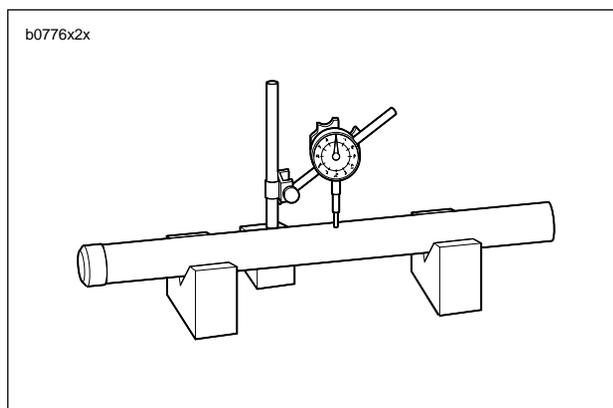

Figure 2-70. Slider Fork Runout
3. Check the slide bushing (21) and the guide bushing (22) for excessive wear or scratches. Replace if damaged or worn.
4. Replace the stopper ring (19) if distorted.
5. Measure spring (16) free length. Replace springs shorter than service wear limit of 9.13 in. (232 mm).
6. See Figure 2-70. Measure slider fork runout. Replace pipe if runout exceeds the service wear limit of 0.008 in. (0.2 mm).